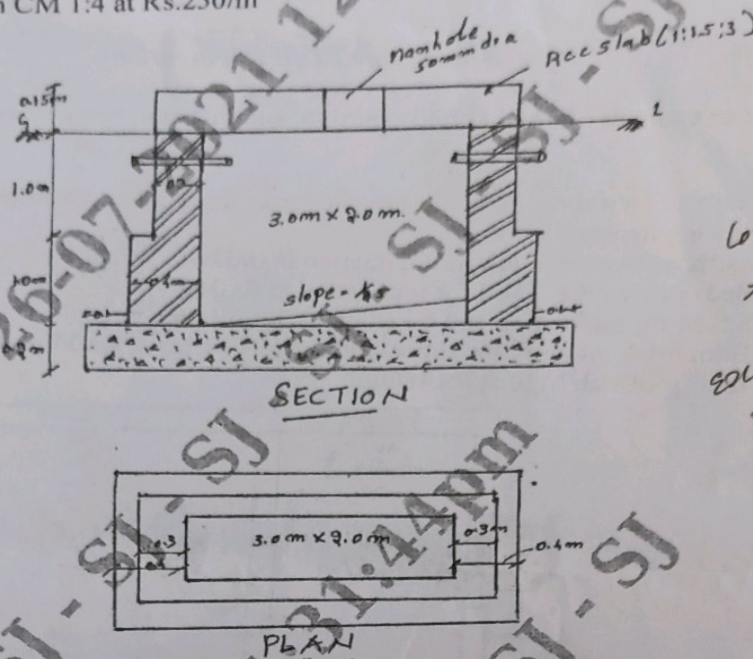

Fig.Q3
- 3 The details of septic tank are shown in Fig.Q3. Estimate the quantities of following items and cost.